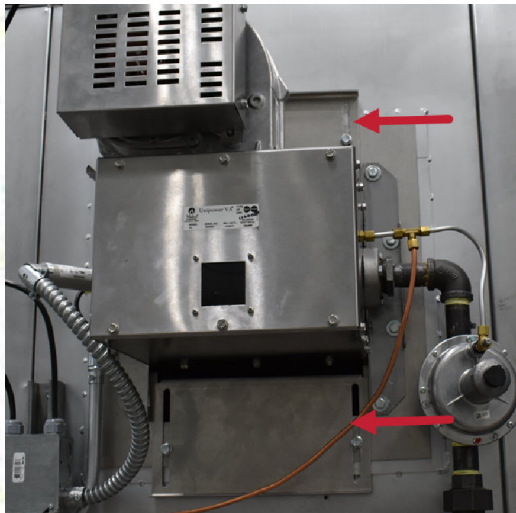

Figure 10. Air Intake Profile Plates
1. Adjustable profile plates around the burner (Figure 10).